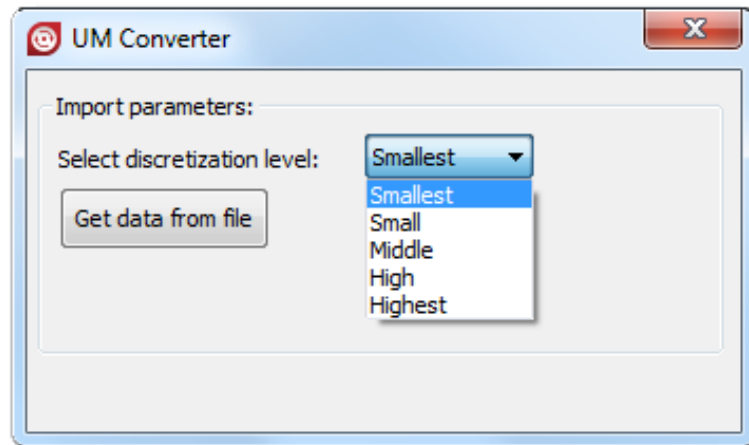

Figure 9.4. Import parameters
2. After loading the file select the discretization level, see Figure 9.4.
3. Click **Get data from file** button (see Figure 9.4) to start importing geometrical data.